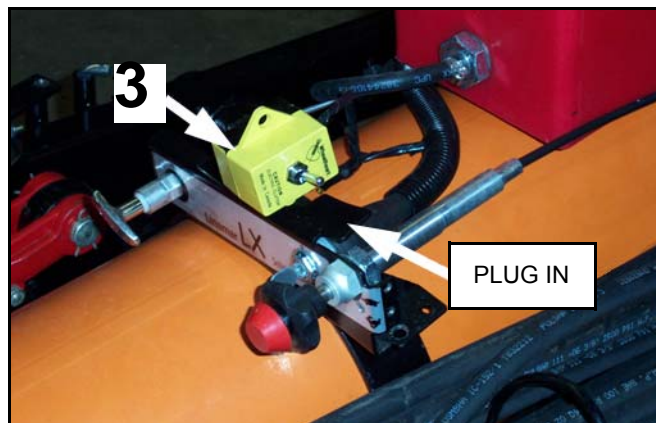

Figure 3.42
1. Remove starter plate from engine and construct a starter plate clamp similar to one shown in Figure 3.42 using one supplied 2" u-clamp. Moving the starter plate allows easy access to controls when conveyor is elevated.
1. Remove starter plate from engine and construct starter plate clamp similar to one shown in Figure 3.42 using one supplied 2" u-clamp. Moving the starter plate allows easy access to controls when conveyor is elevated.